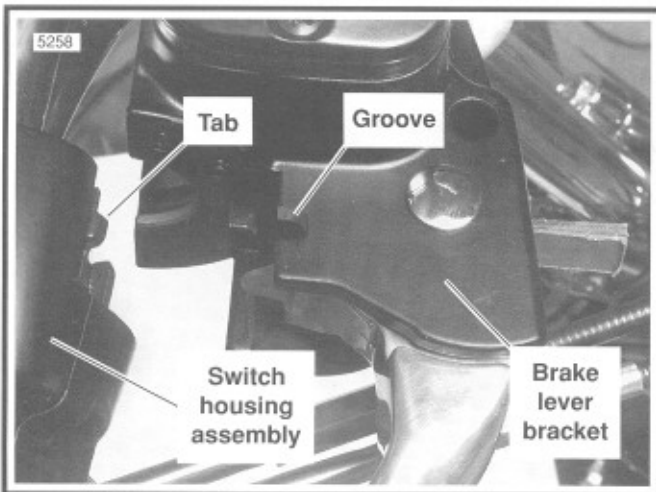

Figure 7-74. Fit Brake Lever/Master Cylinder to Right Handlebar Switch Housings
9. See Figure 7-74. Position the brake lever/master cylinder assembly inboard of the switch housing assembly, engaging the tab on the lower switch housing in the groove at the top of the brake lever bracket.